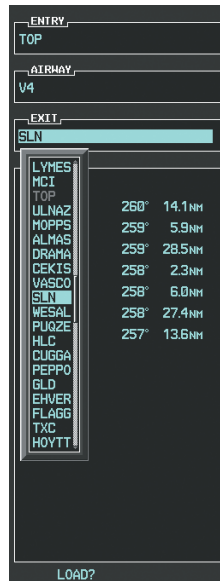

Figure 5-112 List of Available Exits for V4
h) Press the **ENT** Key. The list of available exits for V4 is now displayed as in Figure 5-112.
i) If necessary, turn either **FMS** Knob to select the desired exit. In this case Salina VOR (SLN) is selected as in Figure 5-112.